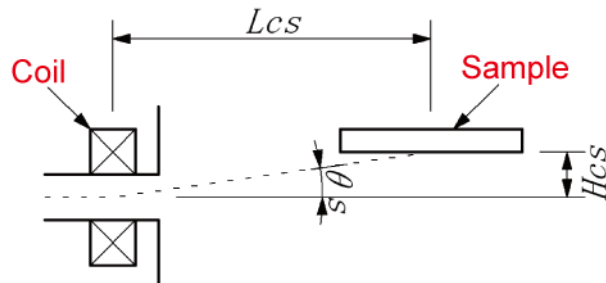

Fig. 8 Schematic layout of the Coil and the Substrate
Once the relation among the setup value for the "Beam Position" and the beam angle are found, the incident angle (position) of the beam to the substrate can be specified. Figure 8 shows the layout of the coil and the substrate.
As same as the section (2), confirm the layout of the coils and substrate from the drawing of the system. Figure 8 simplified the layout, find the two relations of distances for coils. From these relations, you can find how to control the beam position by the coil current.
From Fig. 8, an incident at the center of the substrate from the center of the coil is calculated with the vertical and horizontal distance between the coil center and the substrate of H_{cs} and L_{cs} , respectively, from the following equation (1).